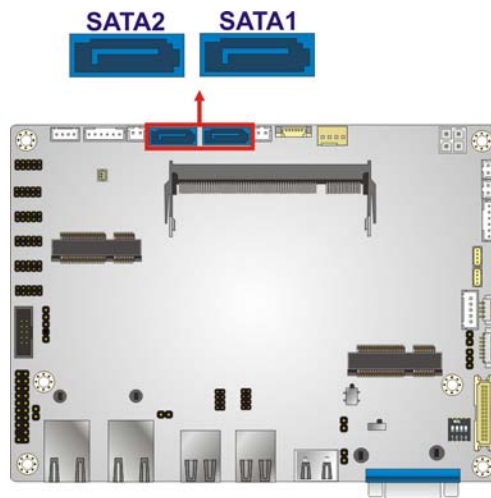

Figure 3-22: SATA 6Gb/s Drive Connector Location
- CN Location:**See Figure 3-22**